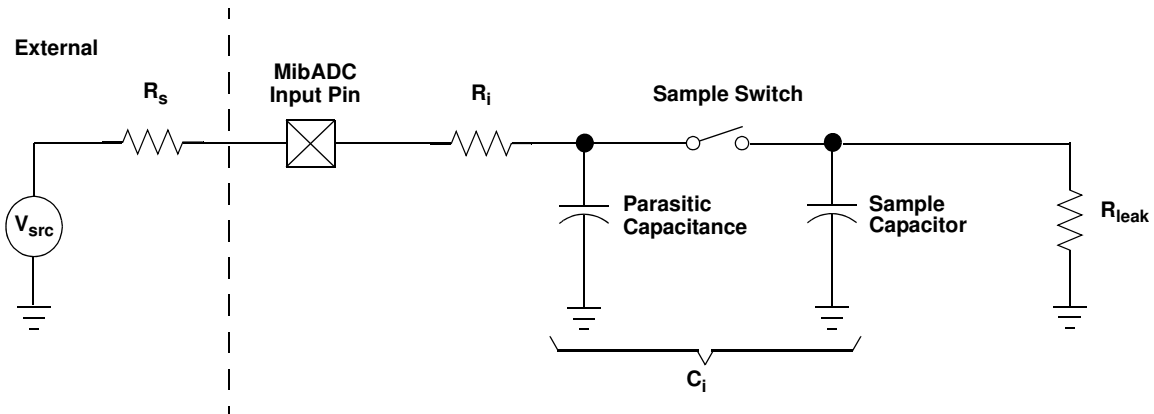

Figure 21. MibADC Input Equivalent Circuit
- Figure 21. MibADC Input Equivalent Circuit